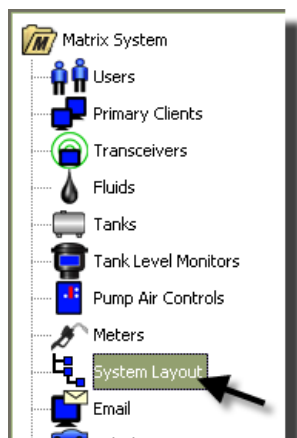

FIG. 123
1. To display the main System Layout setup screen, select **System Layout** from the list on the Matrix System Panel (FIG. 123). Before you setup the System Layout you must first add tanks (page 79) and meters (page 92).